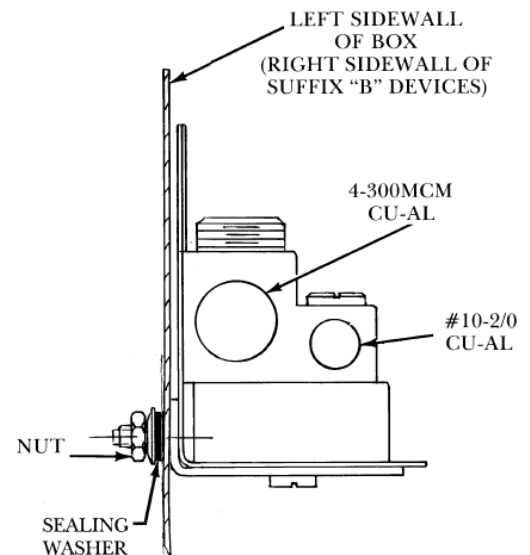

Figure 2. Typical Installation of TNIA64C Neutral Kit
Step 2. Mount neutral block to enclosure as shown in Figure 2. Torque fasteners to 20-24 in-lbs.